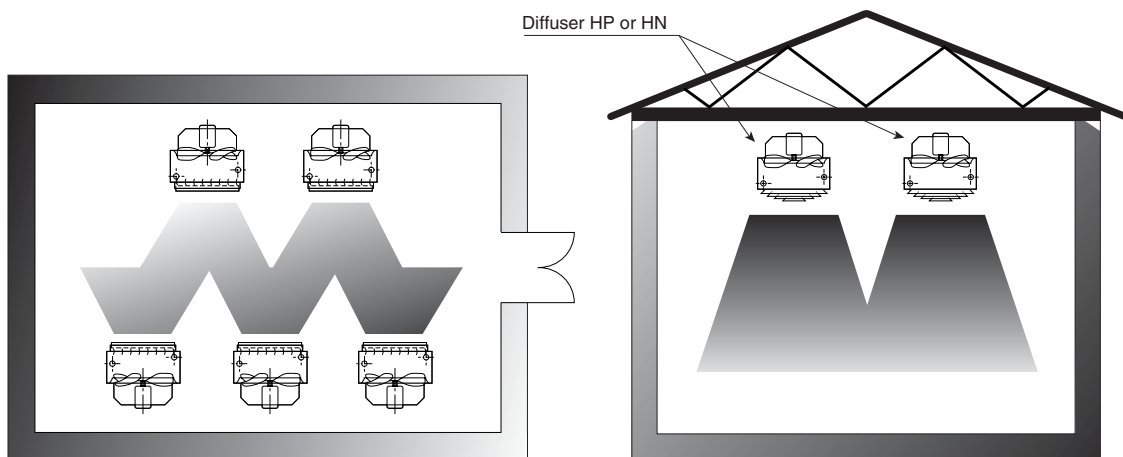

Figure 2
3. In accordance with the number of units which are to be installed and for a maximum comfort, the air stream will be pointed to maximum heat loss area (small area premises) - fig.1 - or oriented in order to obtain a total homogeneity of temperatures - fig.2 - (tertiary buildings and large volumes).